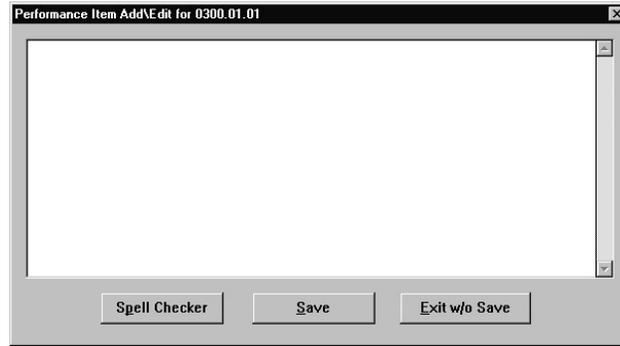

Figure 6-67. Performance Item Add/Edit
(1) Click on **Performance**. The Performance Item Add/Edit memo text box (Figure 6-67) opens. Note that the title bar
- (2) Click on either Evaluator Instructions or Student Instructions. A memo text box (similar to Figure 6-67) opens. Note that the title bar identifies the TLO or ELO number with which you are working.
- (1) Click on the Performance, Evaluator Instructions, or Student Instructions command button. The memo text box (similar to Figure 6-67) opens.
- (2) Click on the Evaluator Instructions or Student Instructions command button. The memo text box (similar to Figure 6-67) opens.